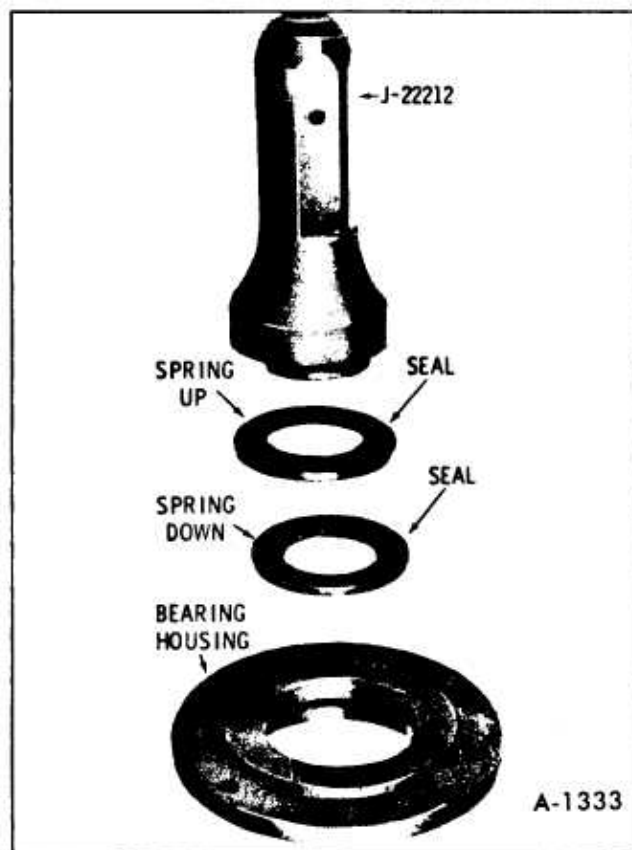

Figure 45—Installing Seals Into Bearing Housing
7. Install seals into bearing housing as shown in Figure 45.